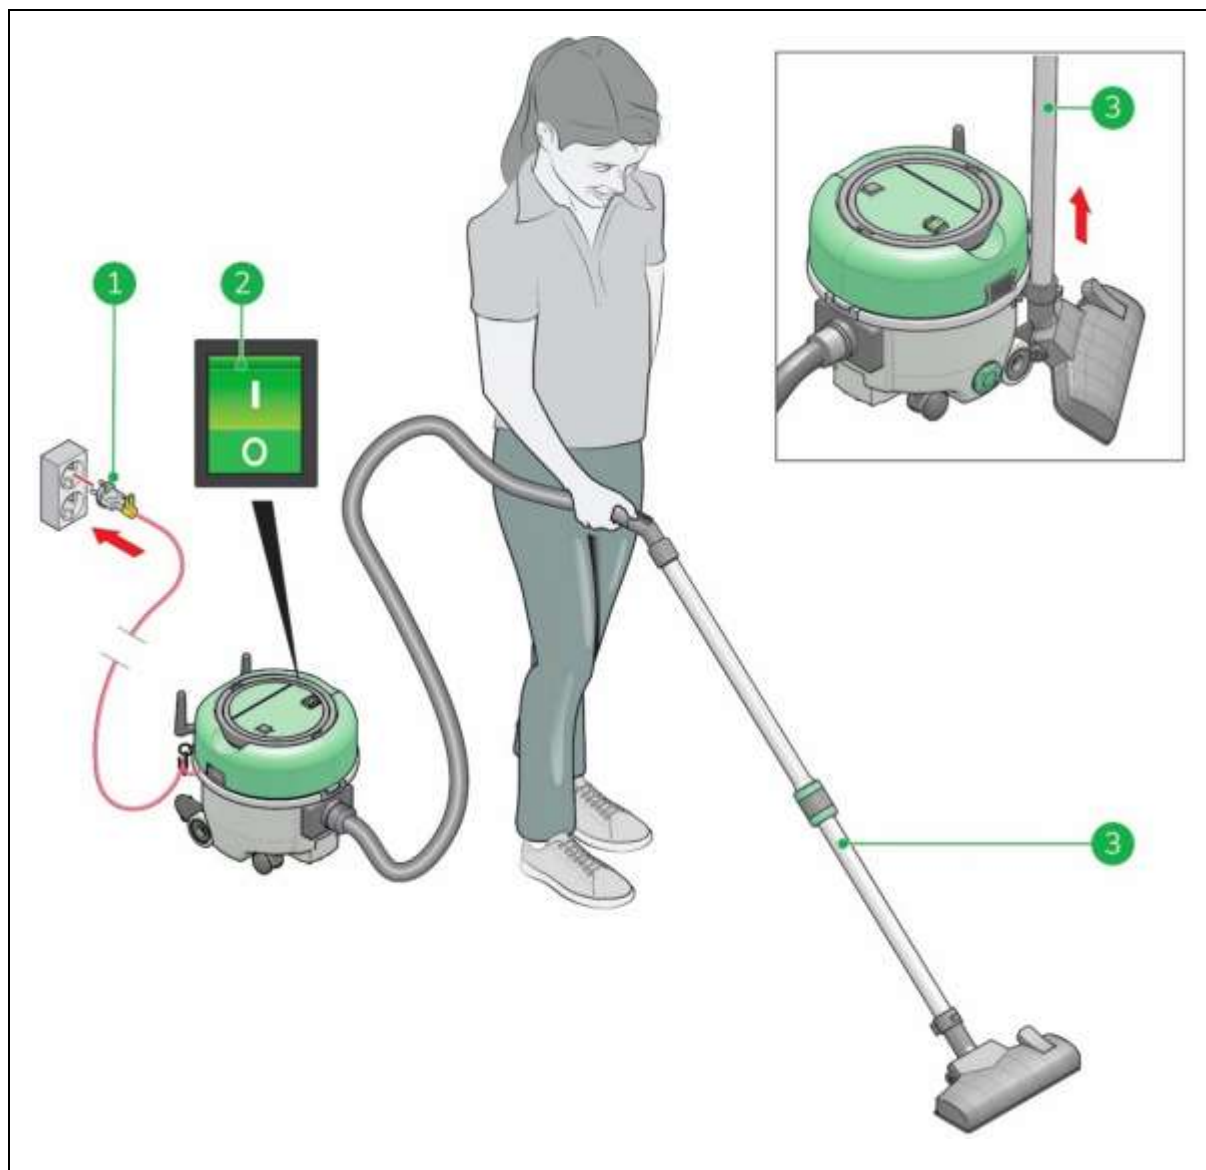

Figure 18
1. Put the main power cable into the wall socket (fig 18, pos 1), the green light in the ON /OFF switch (fig 18, pos 2), on the head of the can, should go on.
2. Turn on the Dry Plus by hand using the ON /OFF switch (fig 18, pos 2).
3. Take the wand from the holder (fig 18, pos 3).